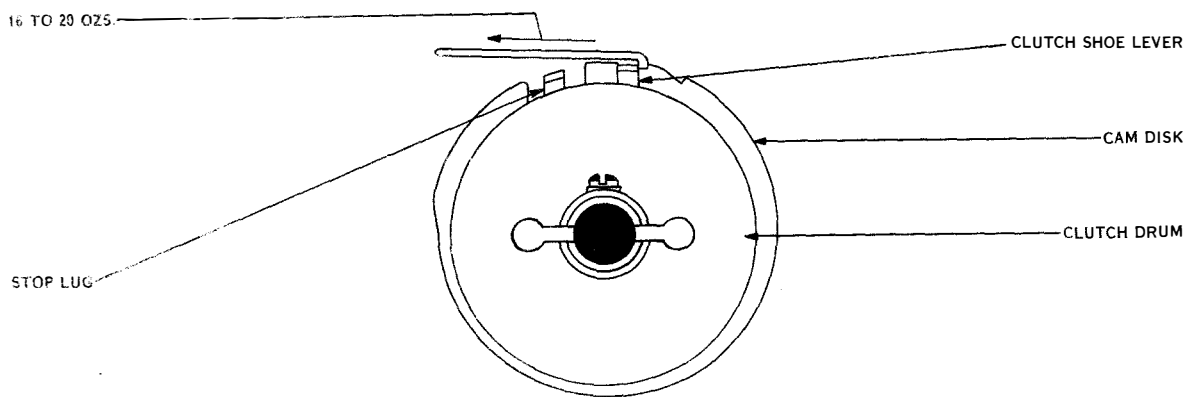

Figure 7-78. Clutch Shoe Lever Spring Tension
(10) **CLUTCH SHOE LEVER SPRING TENSION.** (See figure 7-78.)—With the clutch engaged and the cam disk held to prevent its turning, place the hook end of a horizontally held 32-ounce scale against the side of the clutch shoe release lever which is opposite the stop lug on the clutch disk. With the scale pulled tangent to the clutch, it should require 16 to 20 ounces to move the shoe lever in contact with the stop lug.
(11) CLUTCH SHOE SPRING TENSION.